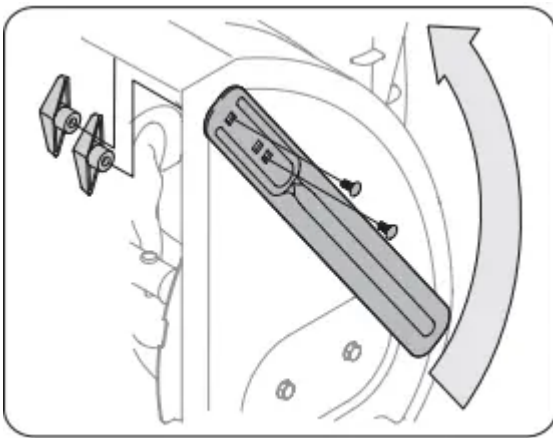

Figure 43
- Turn the drift cutters around and position them as shown in Figure 43 to the outside of the auger housing.